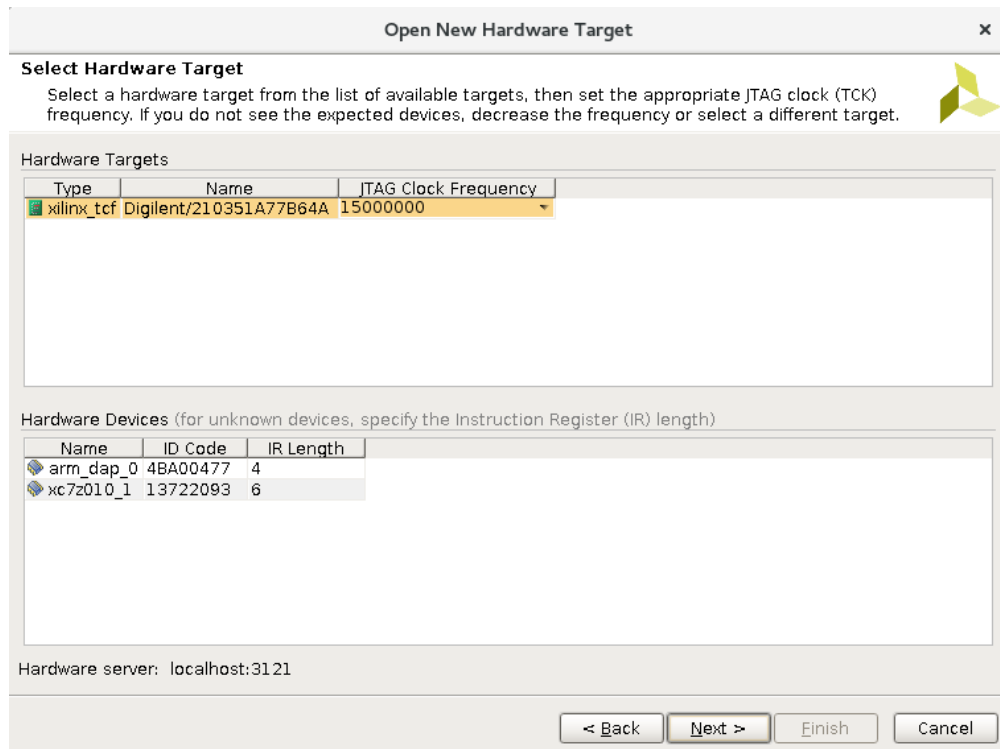

Figure 5: Hardware Target
- (b) Once the bitstream generation is completed, we need to download the bitstream to the FPGA on the ZYBO Z7-10 board. Turn on the power to the ZYBO Z7-10 board and make sure that the jumper JP5 is set in 'JTAG' mode. In the 'Flow Navigator' window, under the 'Program and Debug' panel click on 'Open Hardware Manager'. Click on 'Open Target' and in the pop up select 'Open New Target' which will open the 'Open New Hardware Target' window. Click 'Next'. select 'Local Server' in the 'connect to' field. Click 'Next'. Select 'xilinx_tcf' in Hardware Targets and 'xc7z010_1' in Hardware Devices as in (Figure 5). The 'arm_dap_0' device is ARM Cortex Processor which is not needed for this lab. Click 'Next' and go through the summary and Click 'Finish'. Click on 'Program Device' under 'Hardware Manager' and select the FPGA 'xc7z010_1'. Click 'Program' to program the FPGA on the ZYBO Z7-10 board.